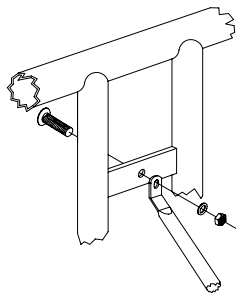

FIG. 5
Attach one end of each (D) brace to each leg using one (H), (J), (I) and (K) see FIG. 5. Secure the opposite end of each brace to the top's center support brace see FIG. 6. Use one, per each brace, (G) and (J) using two (I) and one (K) per (G).